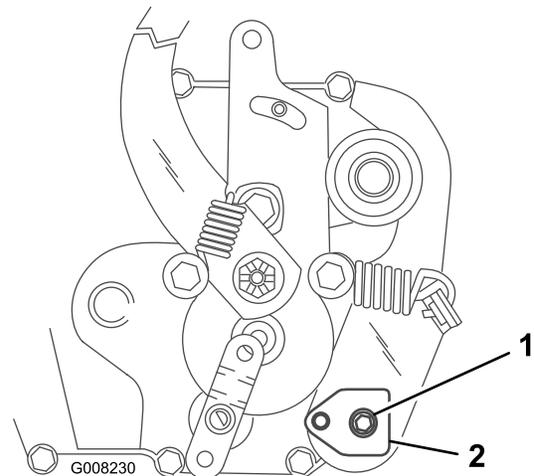

Figure 11
Note: To gain access to the adjusting puck (Figure 11), you may need to remove the tire.
7. Loosen the adjusting puck screw (Figure 11).
9. Rotate the adjusting puck (Figure 11) in both directions until you find the midpoint where the axle no longer rotates forward or reverse.